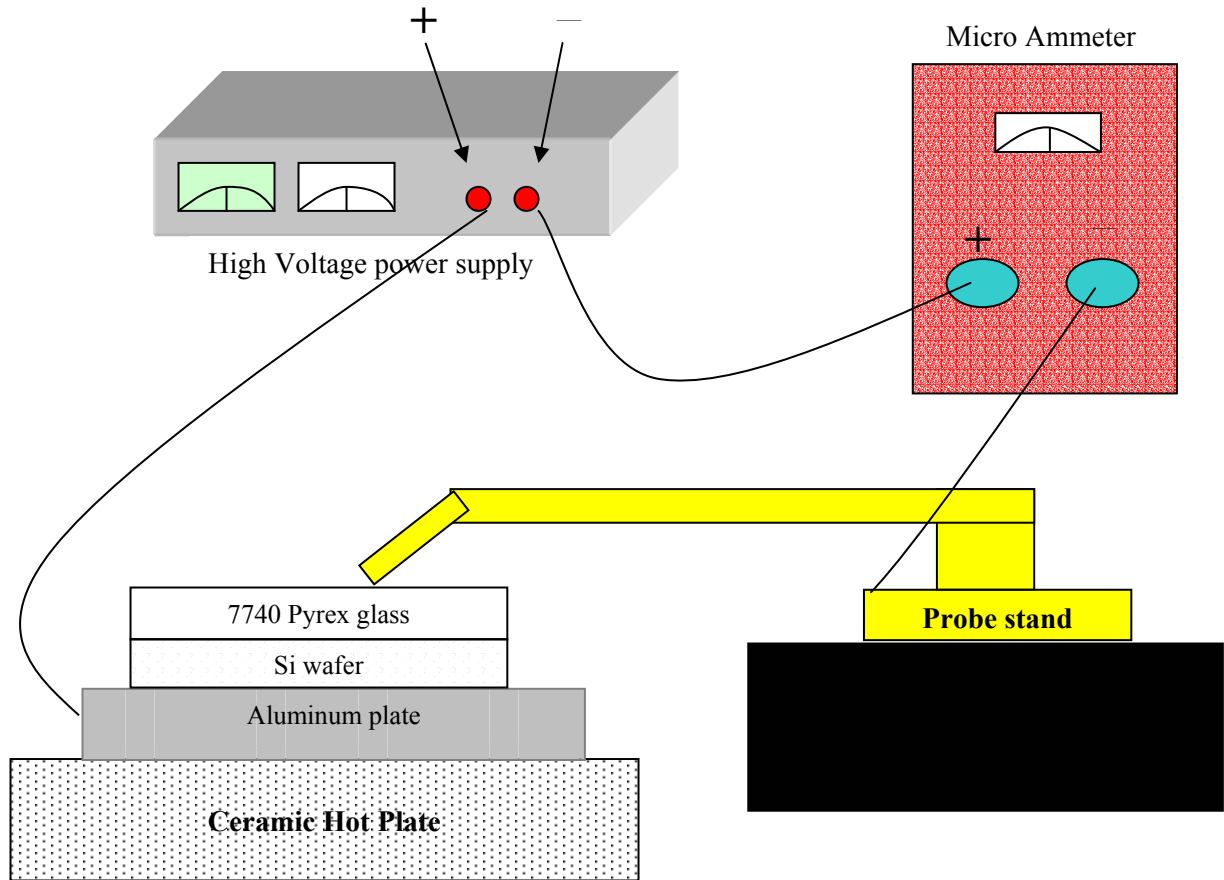

Figure 3: Anodic Bonding Experimental Setup
- b. Rinse the wafers thoroughly with de-ionized (DI) water.
- a. Place the aluminum plate on the hotplate. Place the Si wafer on top of the aluminum and the 7740 Pyrex on top of Si as shown in Figure 3.
- b. Connect the wires as shown in Figure3. The positive voltage should go to the aluminum plate and the negative voltage should go to the probe stand. Lower the probe so that it gently pushes on glass. The application of a little pressure on the wafers aids in the bonding process.
- c. Set the temperature of the hotplate to 500°C . Observe the surface thermometer read out to determine when 500°C has been reached. (Thermometer is not shown in Figure 3.)